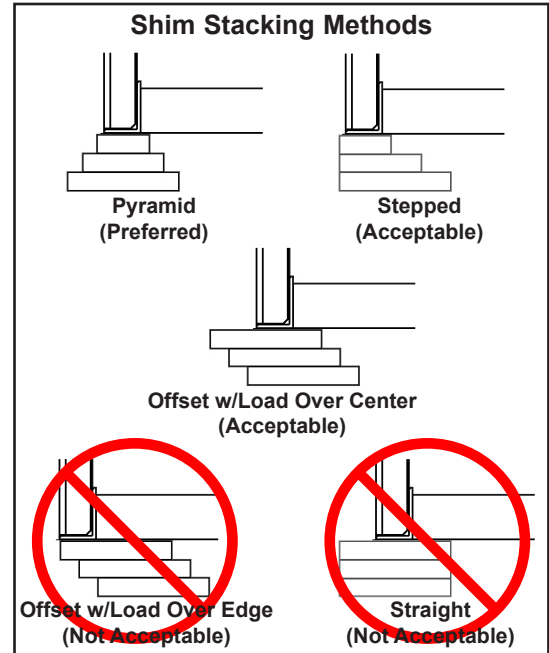

Figure 13
18. Install shims at locations (**B and E**) using an appropriate shimming method (see Figure 13). Both platform cylinder trunnions must be solidly shimmed the entire length of the trunnion. Make sure the trunnions are level from side-to-side as well as from front-to-back.